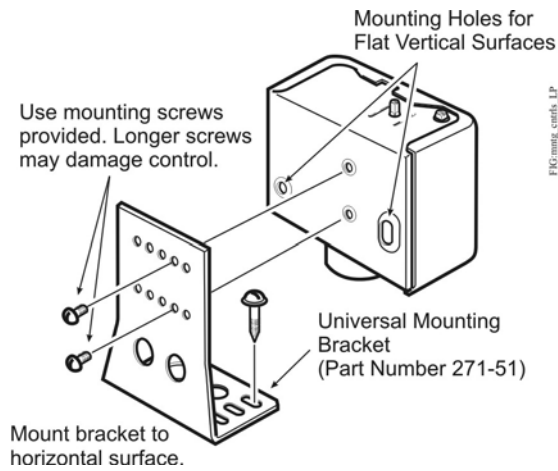

Figure 3: Mounting the P70, P72, and P170 Low Pressure Controls with NEMA 1 Enclosures
- Use the two inner holes with the Universal Mounting Bracket (and screws supplied) when mounting the control to a flat horizontal surface. See Figure 3.